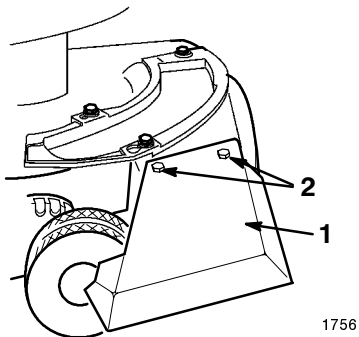

Figure 7
6. Install the guard plate over the side discharge opening (Fig. 7).